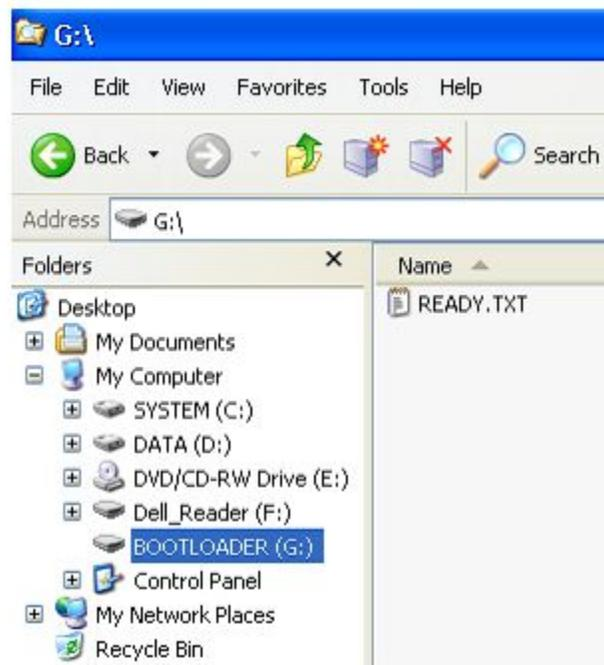

Figure 4. Bootloader drive after enumeration
4. Figure 4 shows the bootloader drive in Windows XP. Notice the volume name of the drive is BOOTLOADER, and the status file is READY.TXT. The bootloader is now ready to receive a firmware image file.